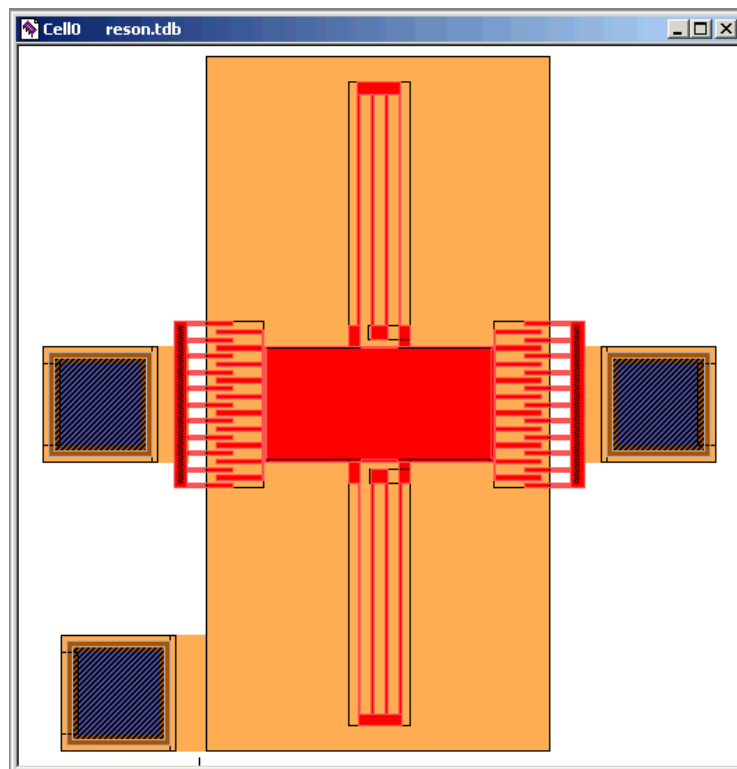

Figure 20: Layout view of the resonator
- ☑ Using the **File > Open** command, open the *reson.tdb* file located under the **MEMS_Tutorials\Resonator\Resonator** directory (Figure 20).